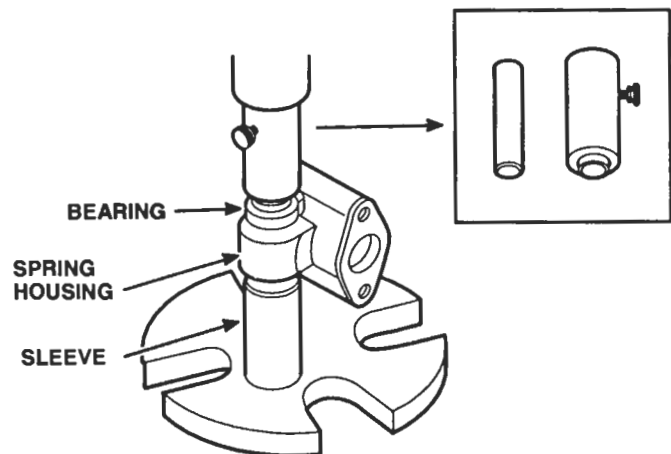

Figure 14. Installing Speed Control Shaft Bearings in Spring Housing
3. Place the pilot rod end of the bearing installer assembly in the bearing. Support the spring housing, bearing and installer on a short sleeve on the bed of an arbor press (Figure 14.) then press the bearing in the housing until the shoulder on the installer contacts the housing.